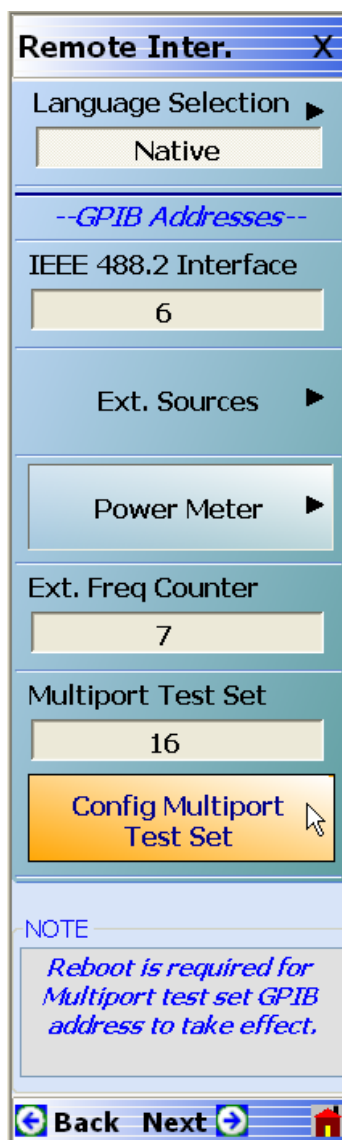

Figure 4-1. REMOTE INTER. (REMOTE INTERFACE) Menu for GPIB Addresses
4. Verify the Multiport Test Set GPIB address is set to 16 in the REMOTE INTERFACE menu (Figure 4-1 on page 4-2):